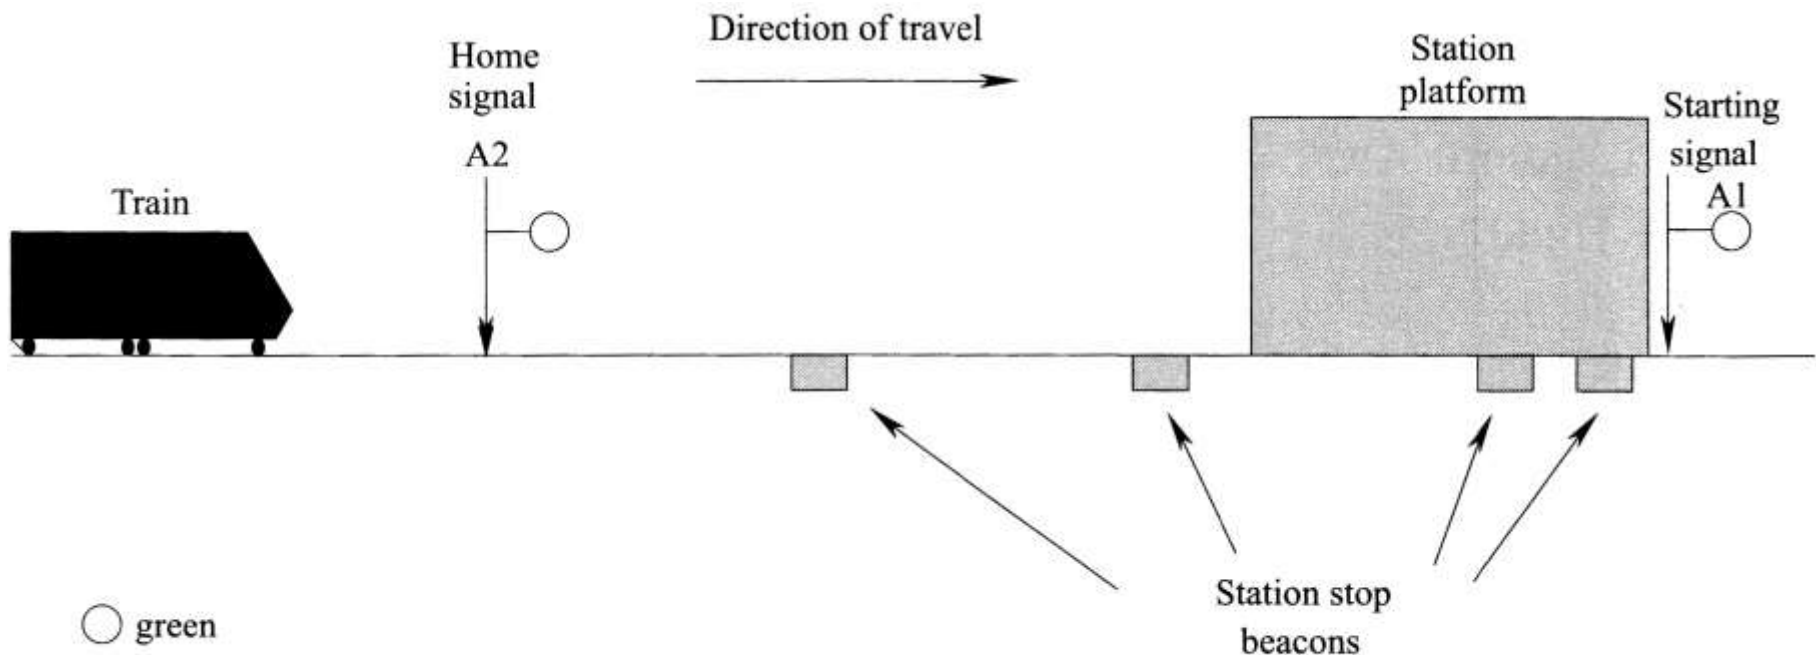

Fig. 7.1 The train approaching a station
- The **sequence operates** as show Fig. 7.1 below.